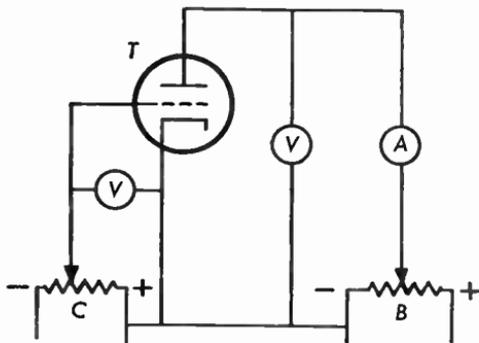

Fig. 4.04 Experimental circuit for determining triode curves.
4.04 The circuit of Figure 4.04 is used to examine the tube T . It is found that with a grid voltage of -6 volts and a plate voltage of 211 volts, the milliammeter reads 8 milliamperes; an increase of the plate voltage to 250 volts causes a rise of the plate current to 12.3 milliamperes. The plate voltage is then decreased to its original value